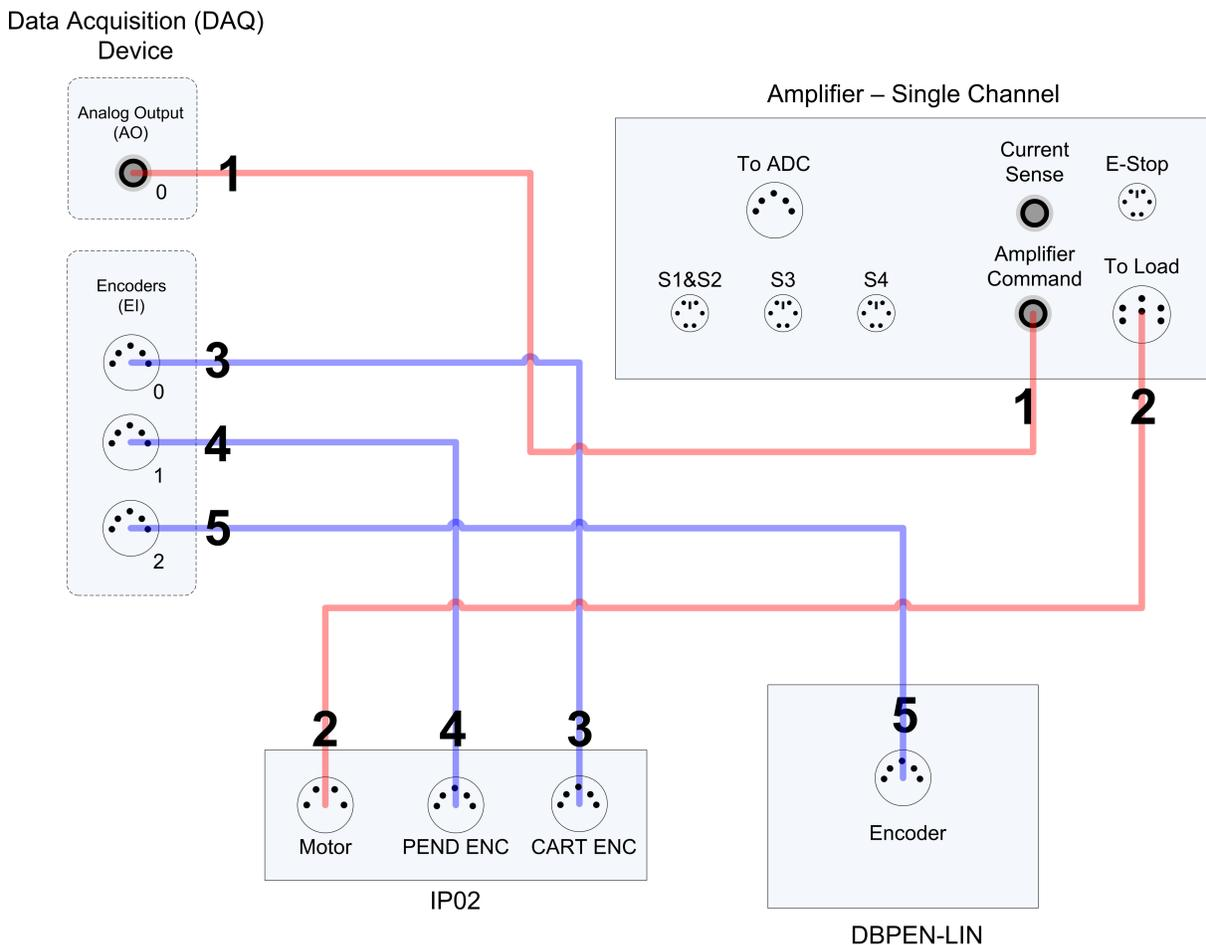

Figure 5.1: IP02 and DBPEN-LIN Module Wiring Diagram
The connections are given in Table 5.2 and illustrated in Figure 5.1. The detailed wiring procedure is given below.
3. Connect one of the 2x RCA to 2x RCA cable from the *Analog Output Channel #0* on the Data Acquisition Device to the *Amplifier Command* Connector on the Quanser amplifier. See cable #1 shown in Figure 5.1. This carries the attenuated motor voltage control signal, V_m/K_a , where K_a is the amplifier gain.
4. Connect the 4-pin-stereo-DIN to 6-pin-stereo-DIN from *To Load* on the amplifier to the *Motor* connector on the IP02. See connection #2 shown in Figure 5.1. The cable transmits the amplified voltage that is applied to the IP02 motor and is denoted V_m .
5. Connect the 5-pin-stereo-DIN to 5-pin-stereo-DIN encoder cable from the *Cart Encoder* connector on the IP02 to *Encoder Input #0* on the Data Acquisition Device, as depicted by connection #3 in Figure 5.1. This carries the cart position measurement and is denoted by the variable X_c .
6. Connect the 5-pin-stereo-DIN to 5-pin-stereo-DIN encoder cable from the *Pendulum Encoder* connector on the IP02 to *Encoder Input #1* on the Data Acquisition Device, as depicted by connection #4 in Figure 5.1. This carries the short link pendulum angle and is denoted by the variable α .
7. Connect the 5-pin-stereo-DIN to 5-pin-stereo-DIN encoder cable from the Double Pendulum encoder connector directly to *Encoder Input Channel #2* on the Data Acquisition Device, as depicted by connection #5 in Figure 5.1. It carries the measured long link pendulum angle and is denoted by variable θ .